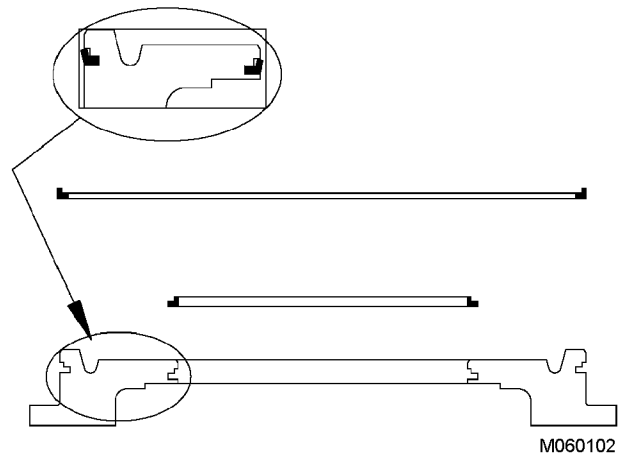

FIGURE 7-66.
26. Lubricate the seal ring grooves of piston (23) with an oil-soluble lubricant such as engine assembly grease. Install small seal ring (24) in the inside groove and large seal ring (22) in the outside groove. Refer to Figure 7-66 for proper orientation.
27. Lubricate the external surfaces of seal rings (22) and (24) with an oil-soluble lubricant such as engine assembly grease. Also lubricate the seal mating surfaces in the pulley adapter.